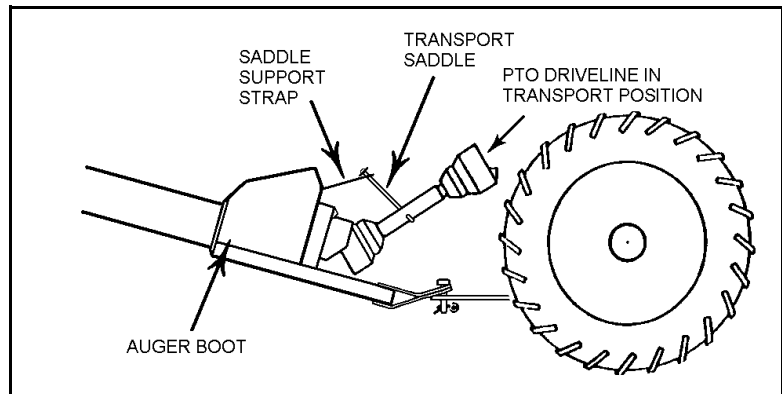

Figure 4.1
1. Ensure auger is in full down-position with PTO driveline disconnected from tractor; see Figure 4.1. The trackshoe must be seated against the trackstop with slight tension on the lift cable, See "Lowering Auger" on page 92.